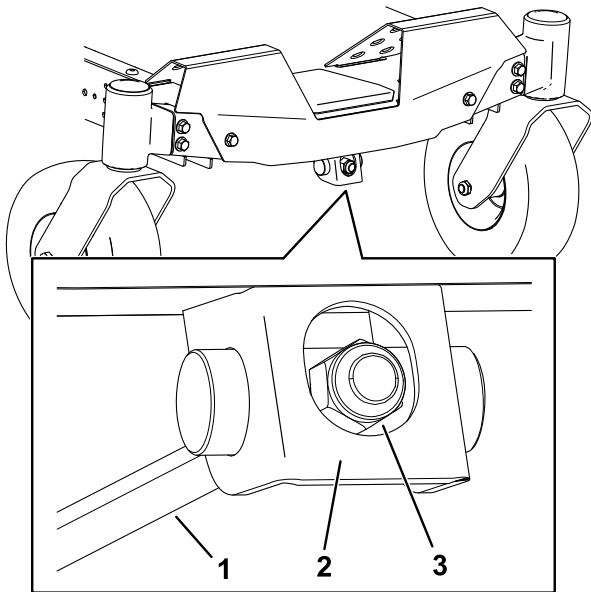

Figure 68
1. Rotate the adjustment nut in the front of the mower (Figure 68).